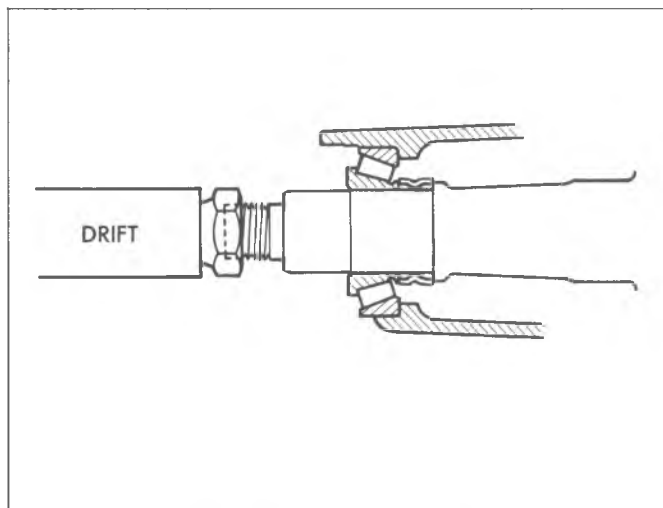

Fig. 14A—Removing Drive Pinion
8. Tap the end of the pinion nut with a large hammer and a soft drift, as shown in figure 14A.